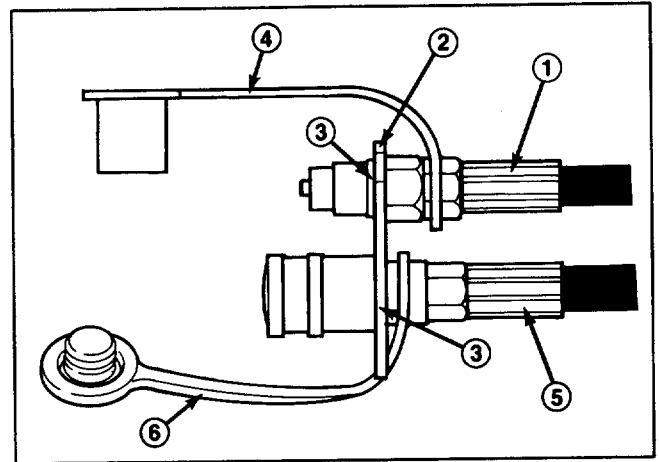

Figure 11
2. Secure hose assembly to female coupler (Fig. 11).
3. Slide loop end of dust cap (Fig. 11) over end of hydraulic hose coming from top valve fitting. Install male nipple to hose end.
4. Insert end of hose thru top hole in coupler bracket (Fig. 11). Secure hose assembly to bracket with retaining ring.